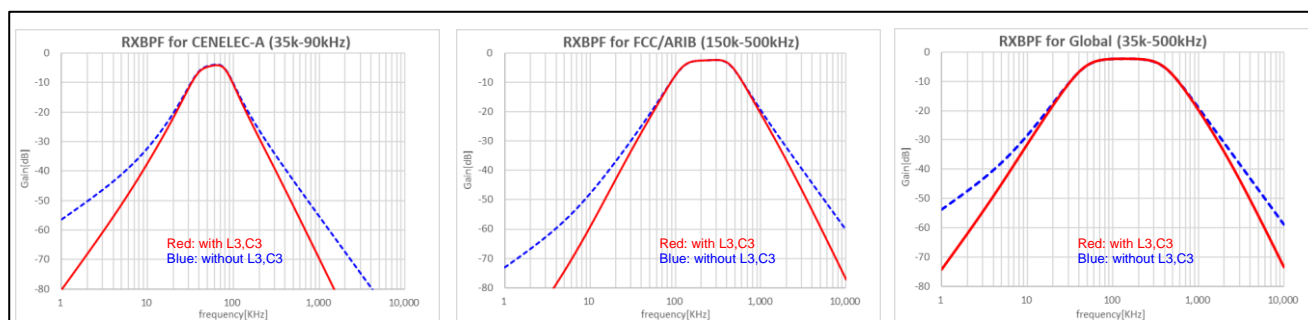

Figure 3-12 Frequency characteristics example of RX-BPF
- Figure 3-12 shows an example of the frequency characteristics of RX-BPF.